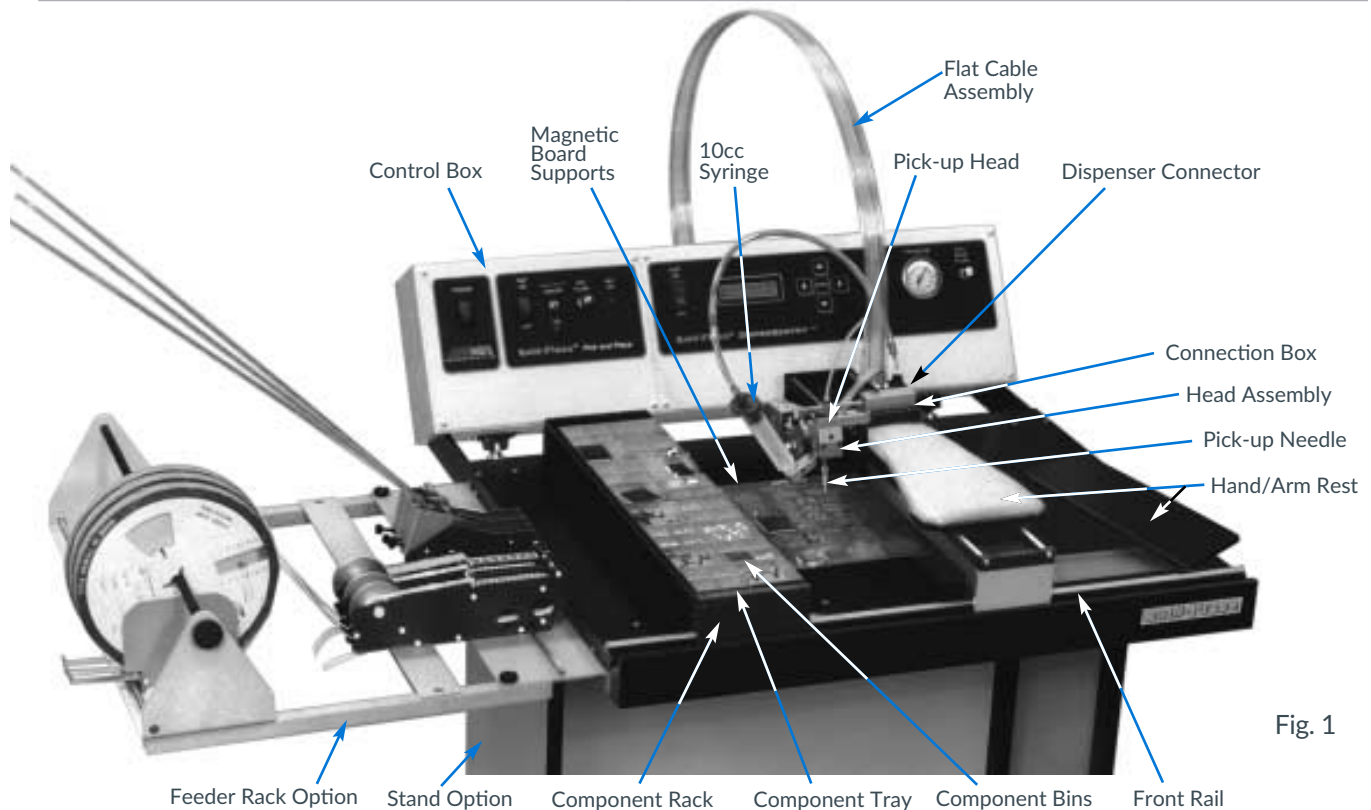

Fig. 1
3. Set-up And Installation (Refer to Figs. 1, 2 & 3)
8. Place component rack on rails and ensure that it slides properly (refer to Fig. 1).
9. Place (2) component trays in component rack and ensure that bins are seated properly in trays.
4. Operation (Refer to Fig. 1.)